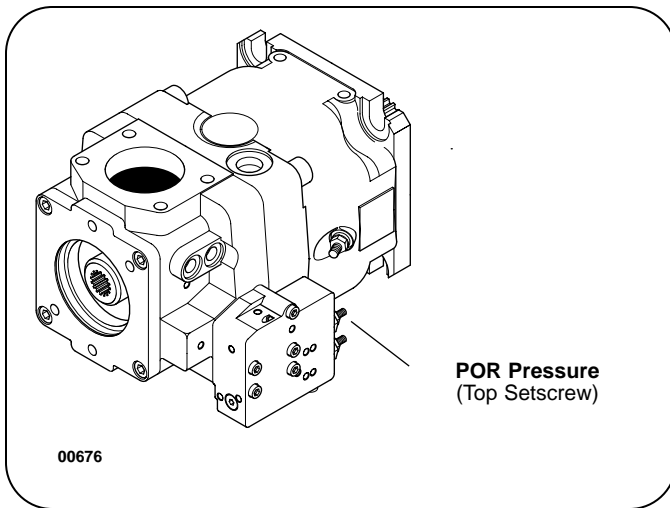

Figure 8: Implement Pump Stand-By Pressure Adjustment
7. Use the 13mm wrench to loosen the jam nut on the POR pressure adjustment setscrew. See Figure 8.